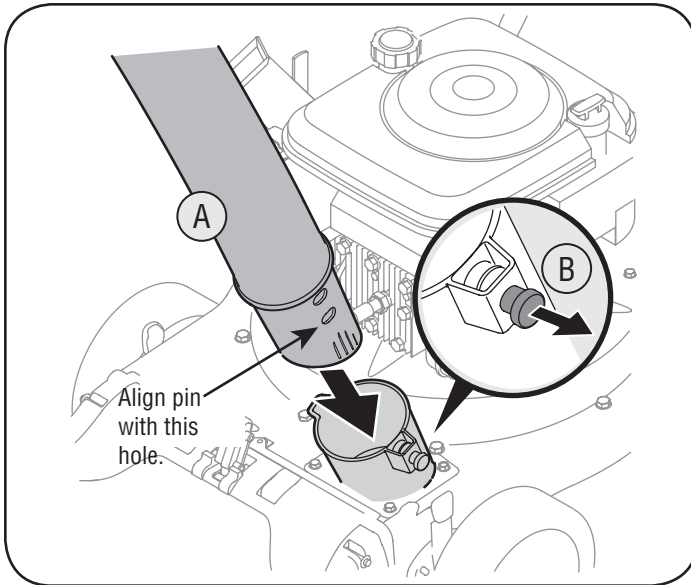

Figure 5
- a. Slide hose adapter of hose assembly into the base adapter located on the left front of the Yard Vacuum. See Figure 5.